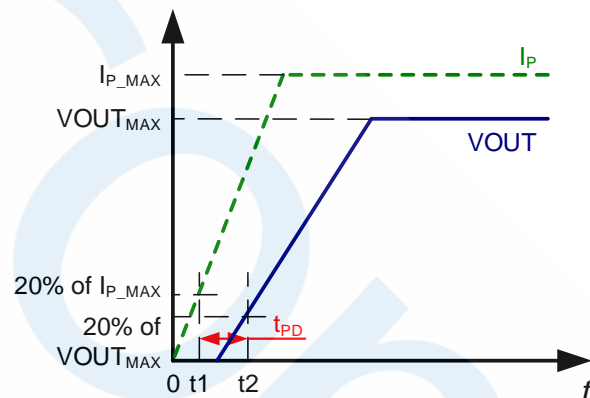

**Figure 5: Power On Time ( $t_{PO}$ )**
2.  $t_2$ :  $V_{OUT}$  settles within ±10% of its steady state value under an applied primary current (see Figure 5).